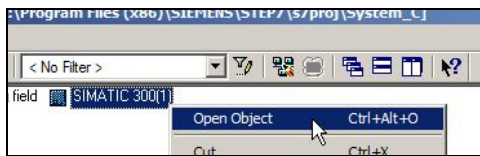

Figure 17: Open Hardware configuration
- 5) To start HW Config, right-click the PCS **SIMATIC 300(1)**, then select **Open Object** (see: Figure 17: Open Hardware configuration).